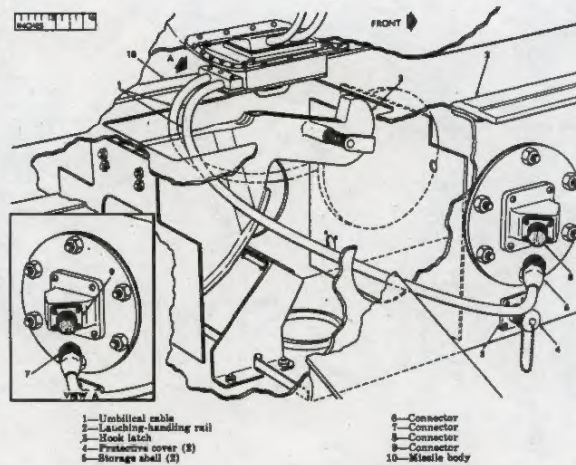

Figure 3-22. Missile umbilical cable connections.
- (7) Move the elevon lock forks forward to engage the elevons.
- (8) Remove the clamp that secures the umbilical cables to the missile body and connect the cables to the connectors on either side of the launching-handling rail (fig 3-22). Pull the hook latch up and engage with the shear plug (fig 4-4).
- (9) Install the two lower rocket-motor cluster fins.